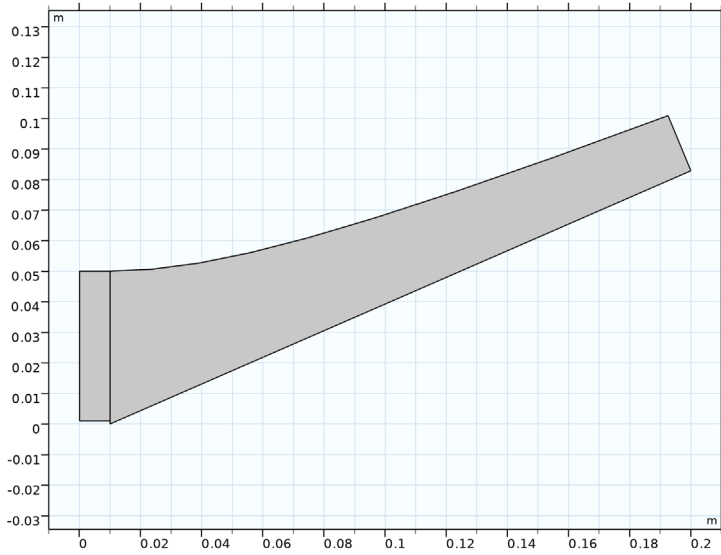

Figure 1: Geometry of the Pierce electron gun.
The gun geometry is shown in Figure 1. The interior edge separating the two domains is only kept for meshing purposes, since the space charge density distribution within the beam can be calculated more accurately using a finer mesh as shown in Figure 2.
- 4 Click the  **Zoom Extents** button in the **Graphics** toolbar. The plot should look like Figure 1.